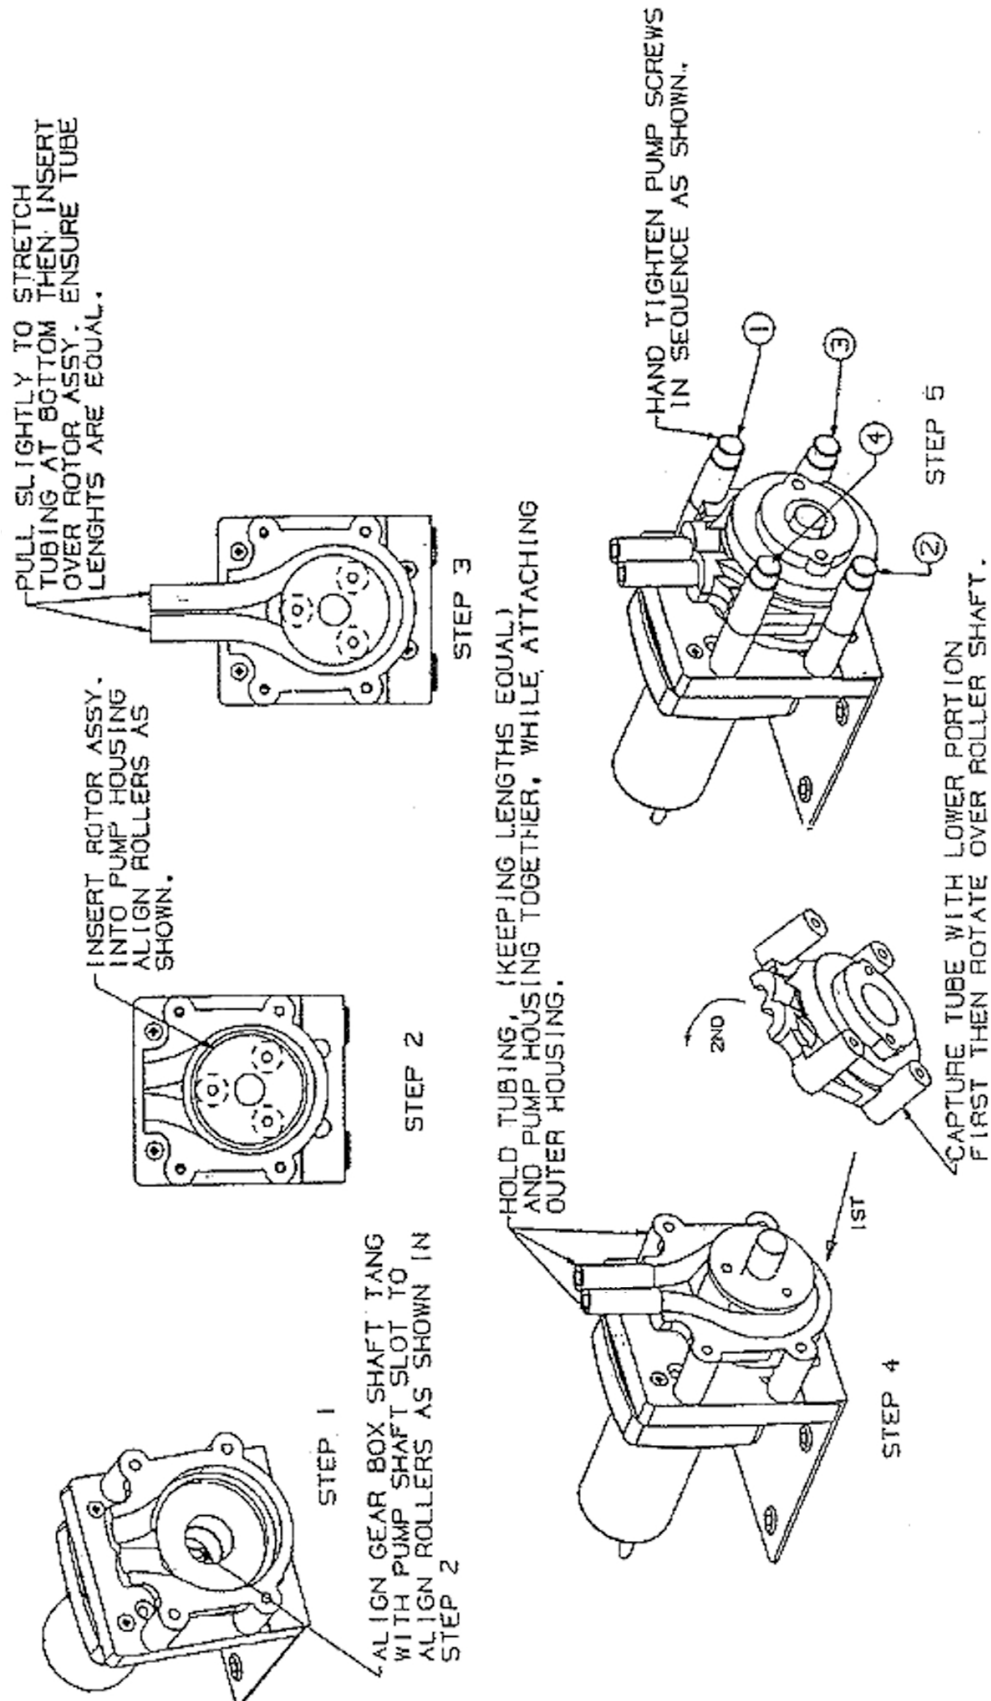
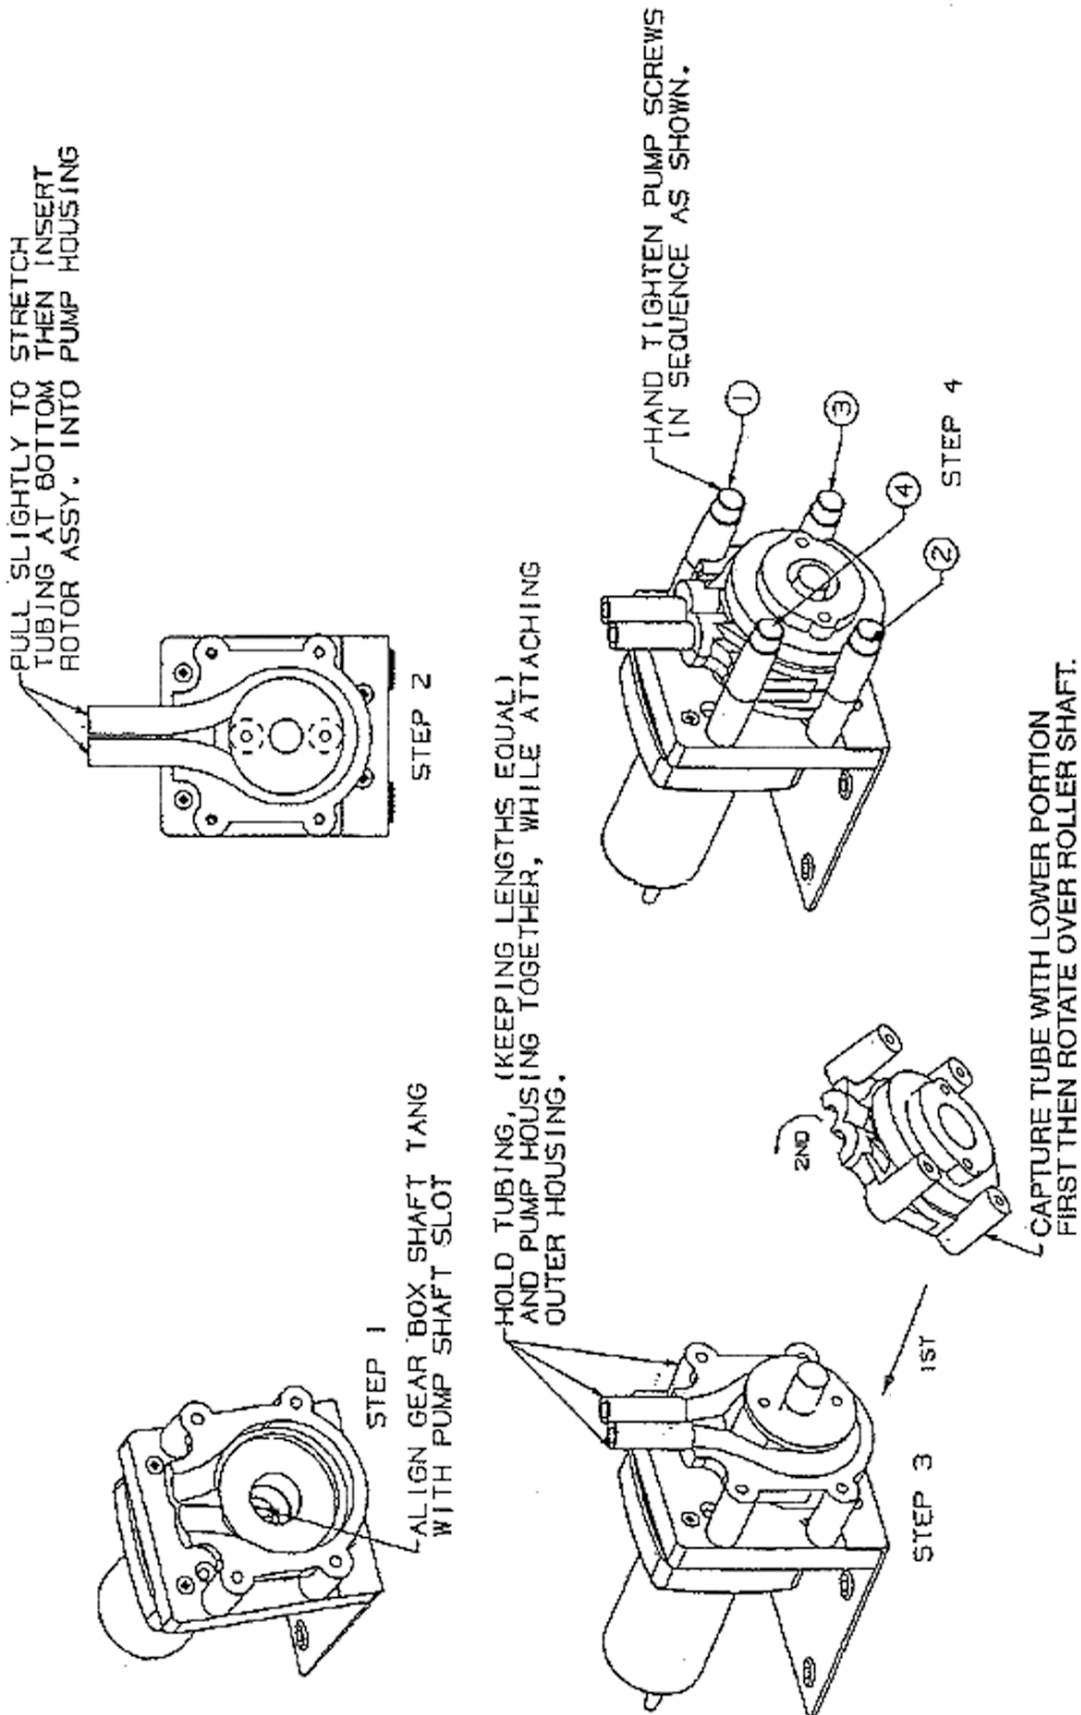

Figure 3. Three Roller Pump Assembly
Figure 4. Two Roller Pump Assembly
5. Remove the old tubing from the pump body. If any of the rollers come out with the tubing, place them back into the housing. **Be sure to align the roller assembly shaft keyway to the motor shaft key so that the two interlock.** (see Figure 3 or Figure 4 for step by step pictorial instructions).